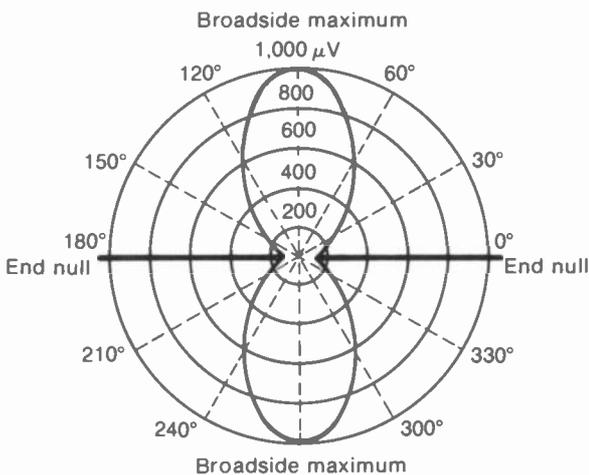

FIGURE 25-2 POLAR DIRECTIVITY PATTERN IN HORIZONTAL PLANE FOR HALF-WAVE DIPOLE ANTENNA.
**Polar directivity patterns.** As shown in Fig. 25-2, signal strength is plotted in polar coordinates to show magnitude and direction. The angle gives the direction for which the signal strength is plotted, while the length of the radial arm defines the magnitude. The polar diagram shows the horizontal directivity pattern of the antenna, as determined by the current distribution of the antenna conductor. For a transmitting antenna, the pattern shows in which direction the antenna radiates the most signal; for a receiving antenna the pattern shows the direction from which most signal is intercepted by the antenna conductor. Rotating the antenna for the direction of best signal pickup is called *orientation*.
A half-wave dipole at its fundamental resonant frequency has the *figure-eight* directivity pattern in Fig. 25-2. The antenna receives best from the front and back, broadside to the antenna conductor, with little signal received from directions off the ends. As examples, in Fig. 25-2 the antenna provides 1,000  $\mu\text{V}$  for signal in the broadside direction, about 500  $\mu\text{V}$  signal at 60°, and a null of practically zero signal at 0° and 180°. This pattern applies only for half-wave resonance. For frequencies off resonance, the directional pattern changes because of a different current distribution on the antenna.